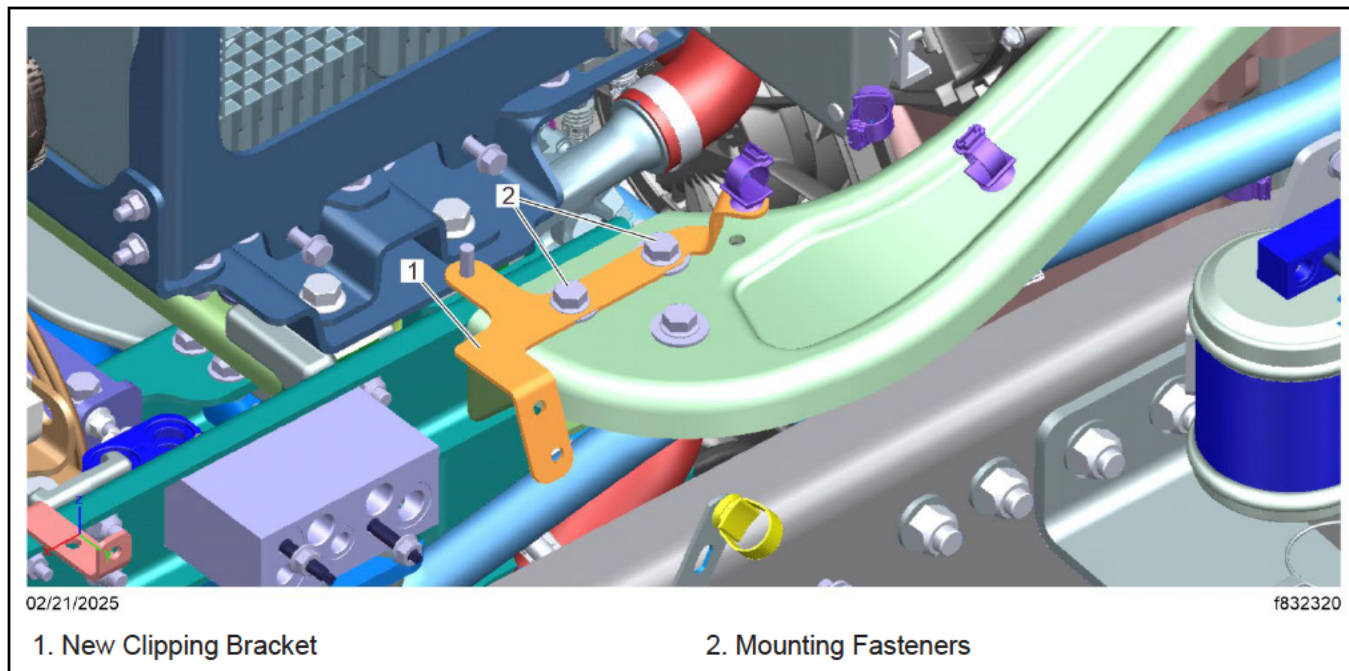

Fig. 5, Installing the New Clipping Bracket
10. Install the new clipping bracket. See Fig. 5.
11. Install the clipping bracket mounting fasteners and tighten 35 lbf·ft (48 N·m). See Fig. 5.